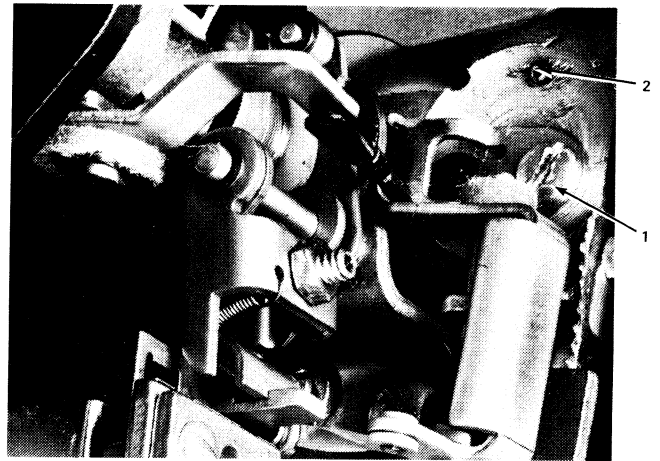

Figure 4-59. Keyboard Removal (Front, Left Corner of Printer)
16. Remove the roll pin (No. 2, Figure 4-59).